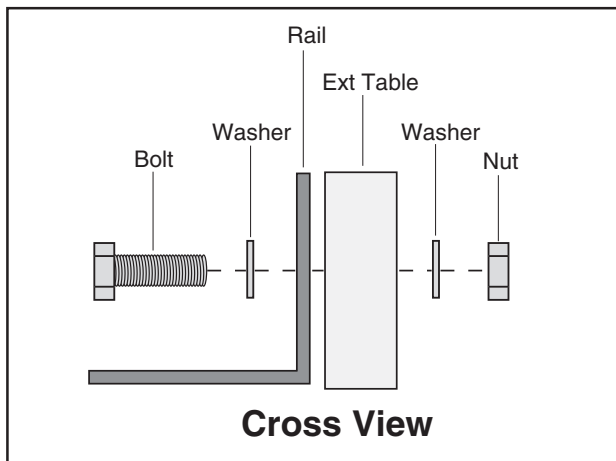

Figure 19. Attaching extension table to the rails.
1. Use the (8) $\frac{3}{8}$ "-16 x $1\frac{3}{4}$ " hex bolts, (16) $\frac{3}{8}$ " flat washers, and (8) $\frac{3}{8}$ " hex nuts to secure the extension table to the rails, as shown in **Figure 19**.